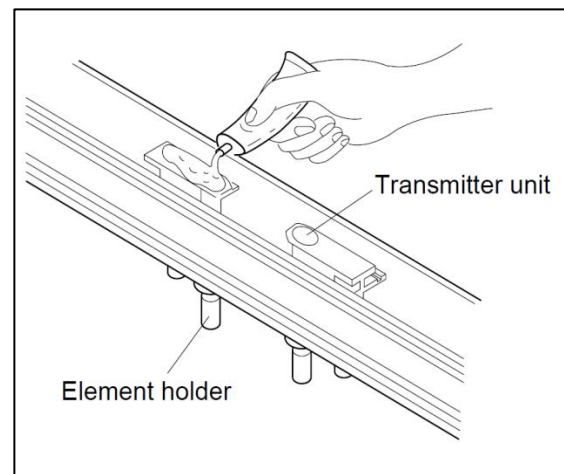

Figure 5: Applying Silicone Gel
1. Apply a small quantity of silicone grease to the transmitting surface of the sensor and spread the compound over the entire area, as seen in figure 5.